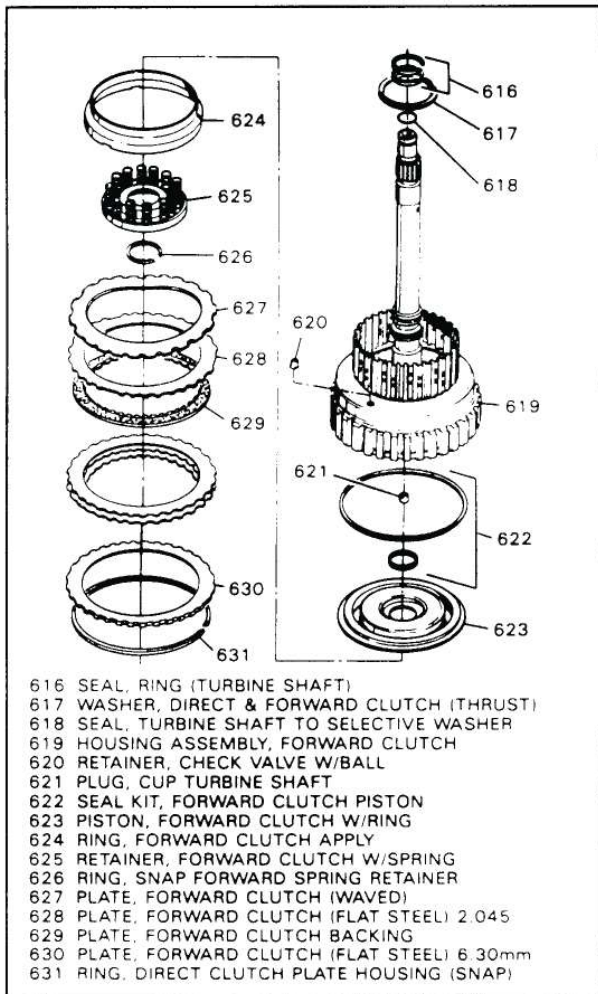

Figure 84
2. Install clutch apply ring into forward clutch piston as shown in Figures 84 and 85.
6. Install the forward clutch return spring assembly with the springs facing piston (See Figure 84).
9. Install the forward clutch "Wave" plate on top of the apply ring in housing (See Figure 84).
10. Install the forward clutch plates beginning with a steel plate and alternating with lined plates (See Figure 84).
14. Install the thrust washer (617) into forward clutch housing, as shown in Figure 84, and retain with a small amount of "Trans-Jel".
17. Install the two sealing rings into the grooves in the turbine shaft (See Figure 84).